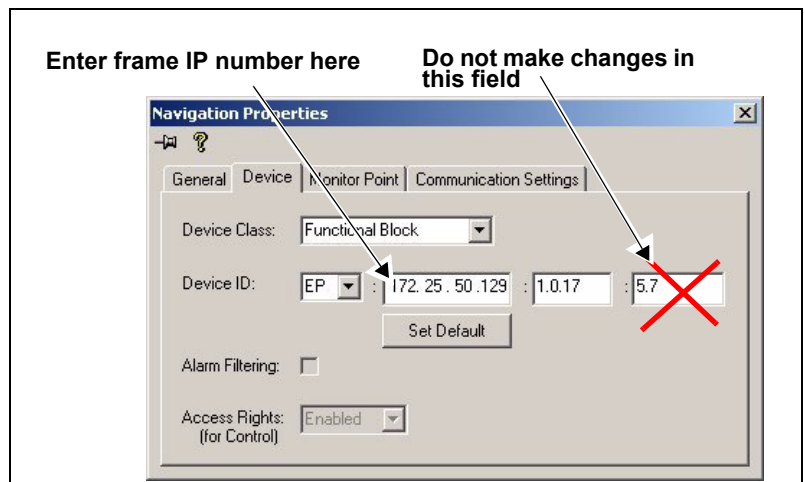

Figure 2-13. Navigation Properties Box
7. On the **Device** tab of the **Navigation Properties** box, enter the IP address of the frame that holds the module. (See Figure 2-13.)